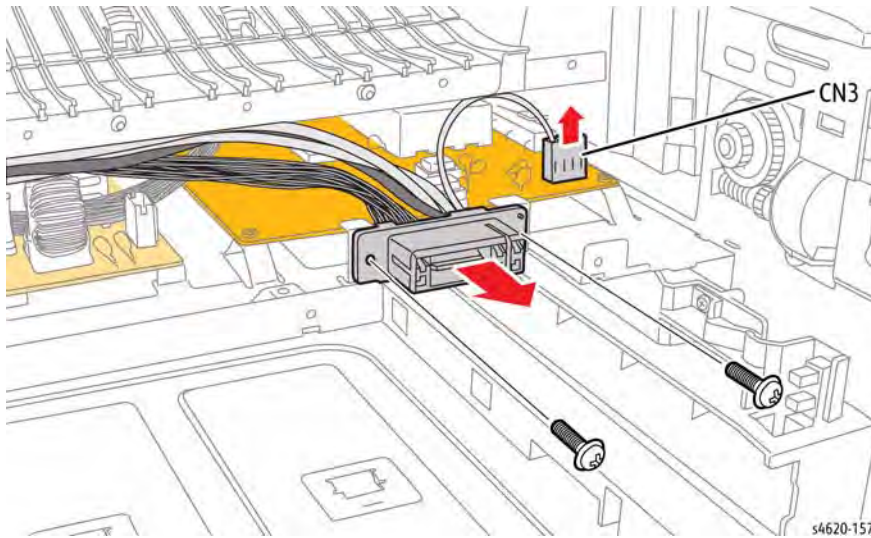

Figure 5 Remove the Fuser connector
14. Remove 2 screws (shank, metal) that secure the Fuser connector to the power supply tray, Figure 5.
15. Disconnect CN3 from the HVPS and move the Fuser harness to the side, Figure 5.